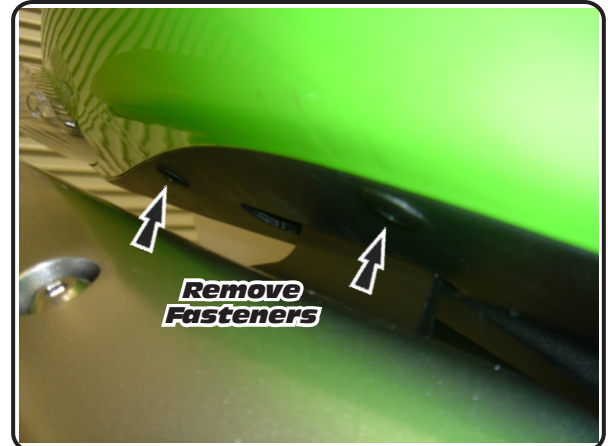

Fig. 4
- 4 Remove rear cowling (be careful not to crack rear cowling during removal, see Fig. 3 and Fig. 4).